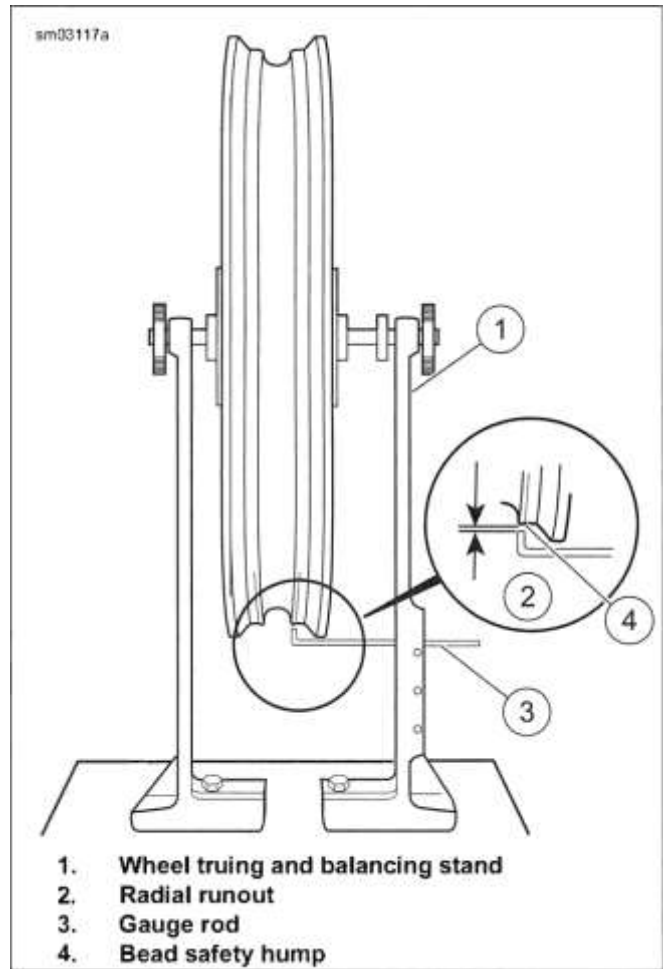

Figure 3-21. Checking Radial Runout
- See Figure 3-21. Mount wheel in truing stand.